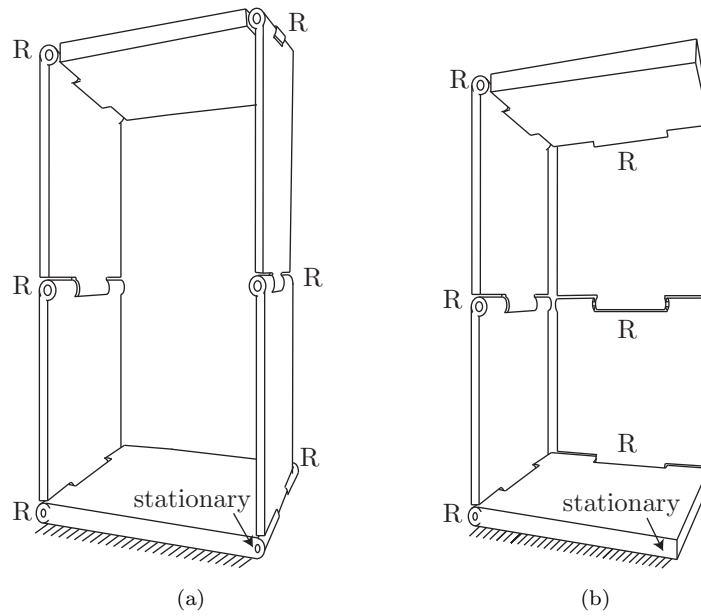

Figure 2.24: Two mechanisms.
Exercise 2.15 The mechanisms of Figures 2.24(a) and 2.24(b).
- (a) The mechanism of Figure 2.24(a) consists of six identical squares arranged in a single closed loop, connected by revolute joints. The bottom square is fixed to ground. Determine the number of degrees of freedom using Grübler's formula.
- (b) The mechanism of Figure 2.24(b) also consists of six identical squares connected by revolute joints, but arranged differently (as shown). Determine the number of degrees of freedom using Grübler's formula. Does your result agree with your intuition about the possible motions of this